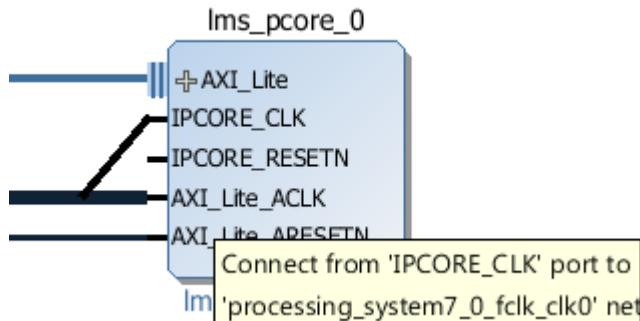

Figure 5.6: Manually connecting the LMS IP CLK
- (s) Hover the mouse pointer over the **IPCORE_CLK** interface on the **Ims_pc当地_0** block until the cursor changes to a pencil. Click and drag the mouse pointer until it is hovering over the wire that connects to the **AXI_Lite_ACLK** interface and the wire is highlighted, as shown in Figure 5.6, and release the mouse button to create the connection.